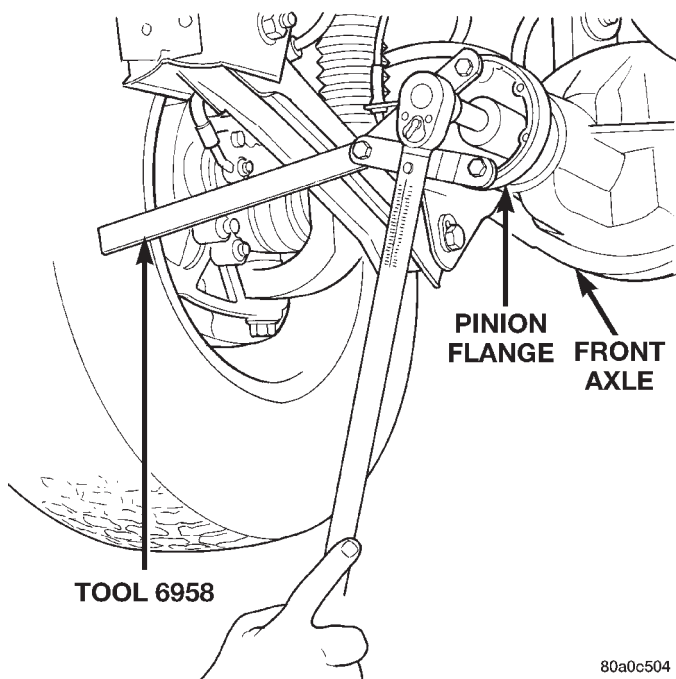

Fig. 28 Tightening Pinion Nut
(8) Install the yoke washer and **old nut** on the pinion gear. Use Holder 6958 to retain the yoke (Fig. 28). Tighten nut to 216– 352 N·m (160–260 ft. lbs.) torque.